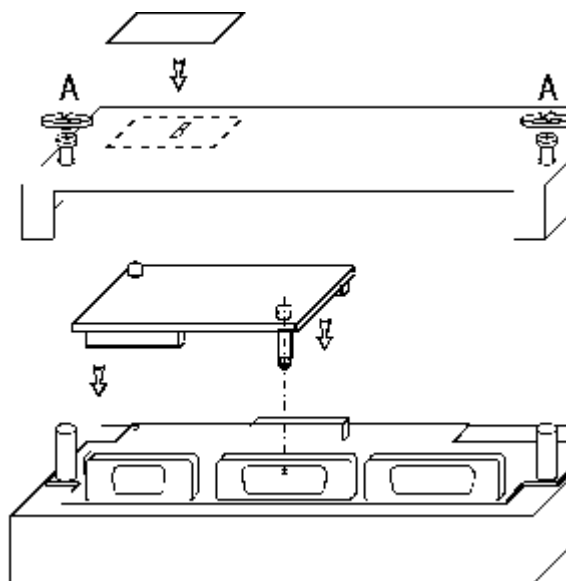

Figure 4
2. Using a screwdriver, unscrew (not completely) the two screws "A" fixing the rear cover (shown in Figure 4).